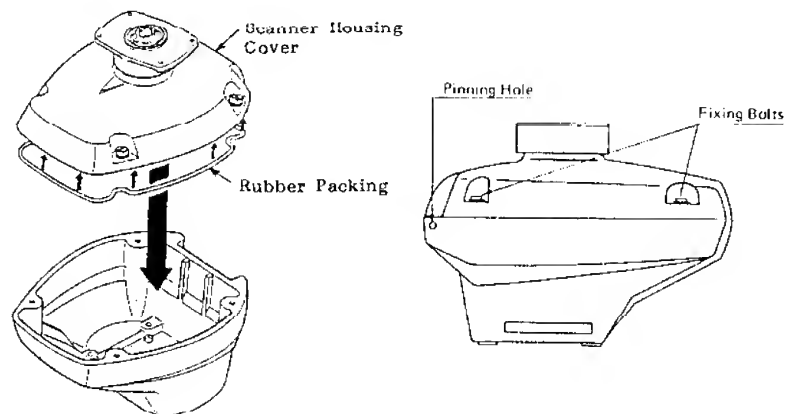

Fig.6 Assembling of Scanner Housing
1. Place the scanner housing cover onto the scanner housing. Apply grease to the rubber packing. Making sure the packing rests properly in the groove, fasten the four fixing bolts temporarily by hand as shown in Fig.6.
2. Apply grease to the two slot pins and insert them into the pinning holes shown in Fig.6 until the pin head becomes flush with the scanner housing surface. It is recommended to use a wooden hammer to avoid damaging the cosmetic paint.